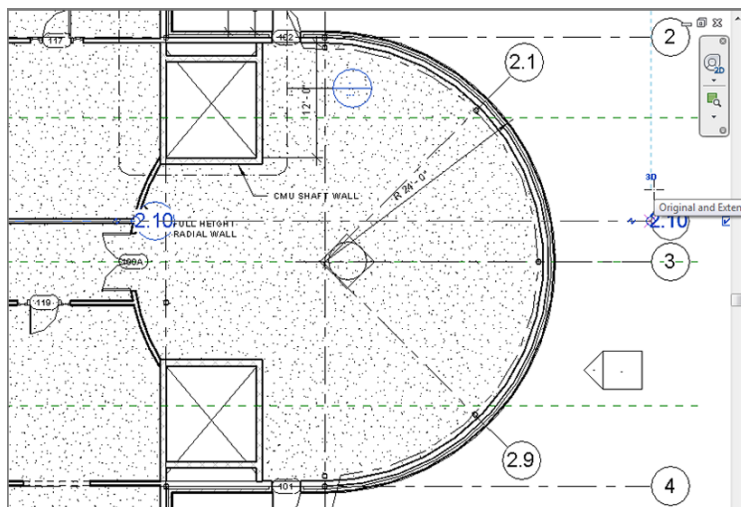

FIGURE 8.10: Dragging the line and turning on the bubble so you can rename the grid 2.10
4. Pick the blue grip at the end of the line, and stretch it to align with the already-placed bubbles, as shown in Figure 8.10.
6. Rename the grid 2.10 (see Figure 8.10).